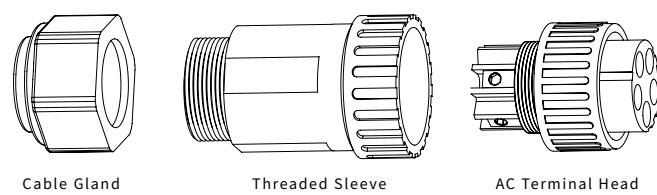

Figure 4-15
① Take the AC connector out of the accessory bag and disassemble it, as shown in Figure 4-15: